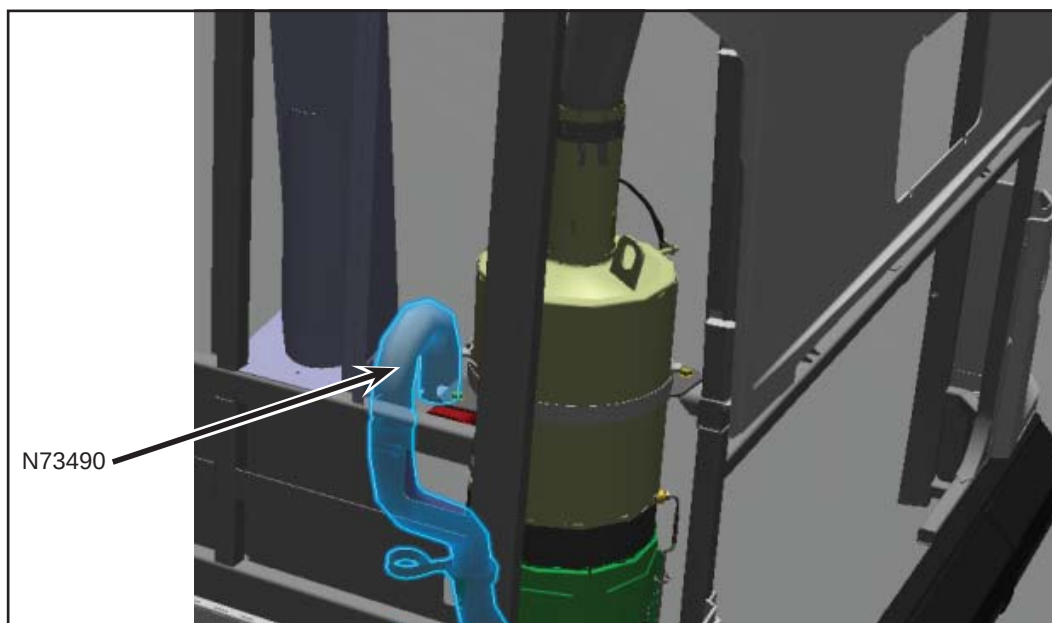

Figure 4 - Location of Snorkel Tube Assembly N73490
- 1.4. Locate the auxiliary heater intake pipe N73490 which is accessible by grill air intake panel door, at the rear of the vehicle, on the street side. (see Figure 4).
- 1.5. Remove the pipe N73490 and discard (see Figure 4). Retain the hardware.